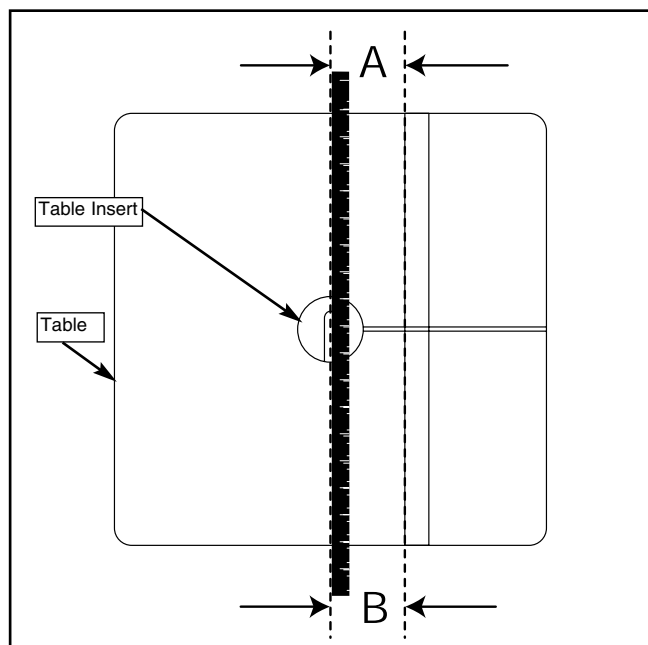

Figure 22. Squaring table to blade.
3. Measure the distance between the edge of the miter gauge slot and the straightedge at points **A** and **B**. **See Figure 22.** Distance **A** should be approximately equal to distance **B**. Adjust the table slightly until these distances are equal.